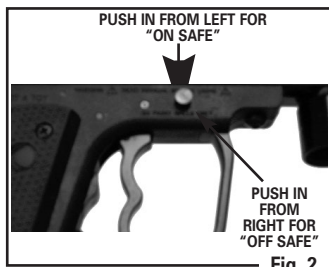

Fig. 2
- Push the SAFETY from the left side all the way in. (Fig. 2) The SAFETY is not on unless it is pushed all the way in and the red circle around the SAFETY is not showing. The paintball marker will not fire when "On Safe".
- Push the SAFETY from the right side all the way in. (Fig. 2)